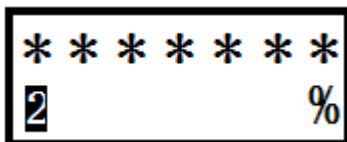

Figure24
2.4 Enter "Right" once, the screen display the second variable "current pressure/differential pressure value relative to the percentage value of the quantum", and the percent "%" and their series number, as shown in Figure 24;